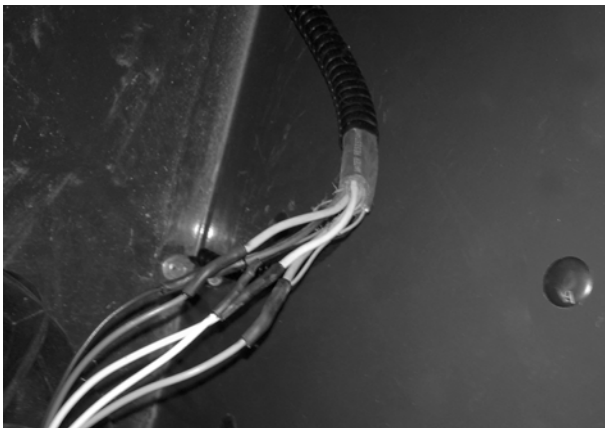

FIG. 70
9. Refer to FIG. 70 for a wiring example.